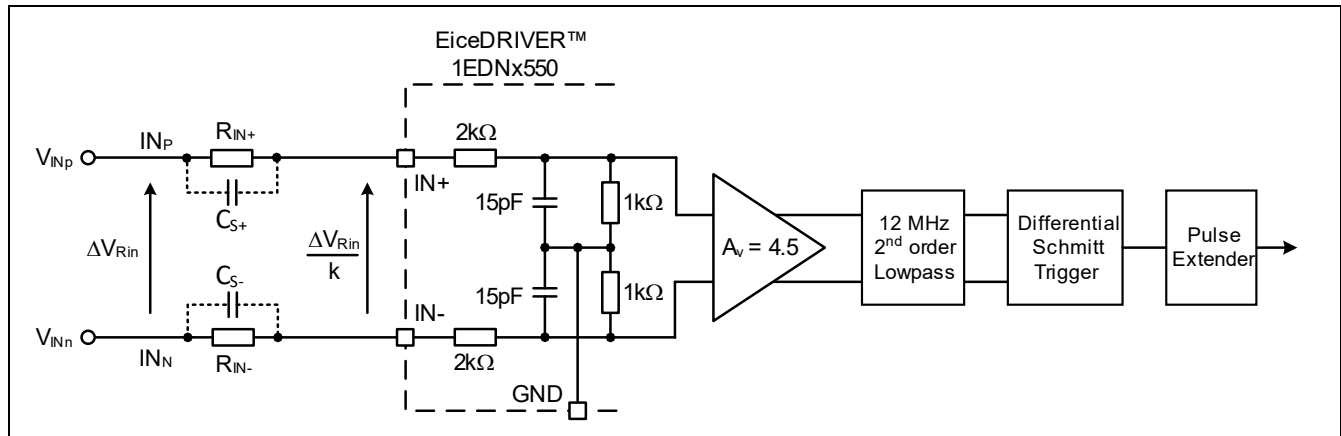
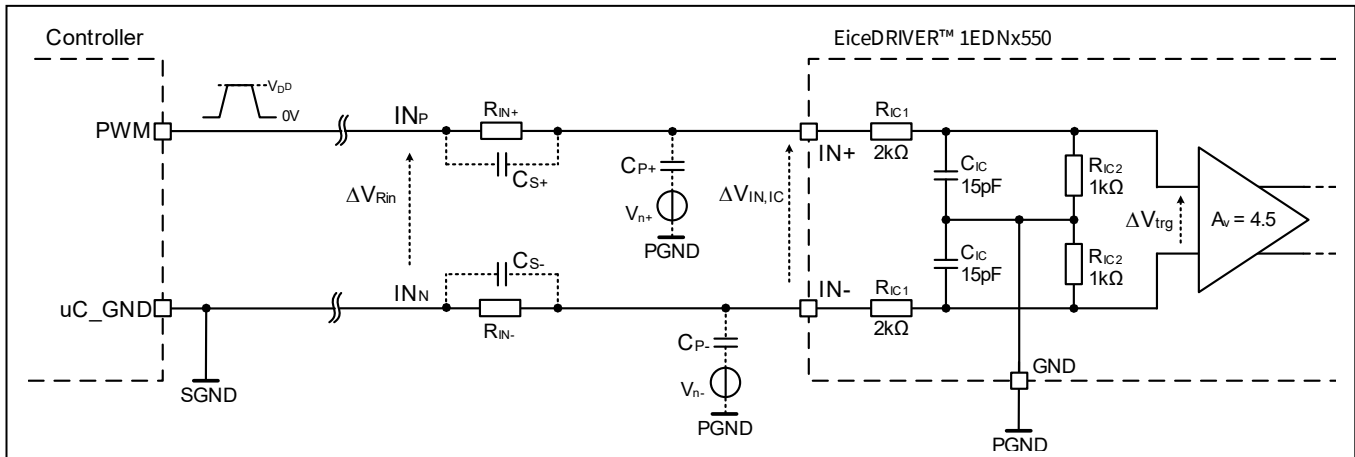

Figure 3 TDI input stage of the EiceDRIVER™ 1EDNx550 gate driver IC
Figure 14 EiceDRIVER™ 1EDNx550: equivalent circuit model for the input signal
The two input resistors R_{IN+} and R_{IN-} are mandatory for proper operation of the EiceDRIVER™ 1EDNx550, as they enable rejection of the common-mode voltage and scale the PWM voltage as shown in **Figure 3**.
The two key points presented in Section 3.1.1 can be quantitatively analyzed by means of the full equivalent circuit presented in **Figure 14**, which introduces PCB parasitic capacitances C_{p+} and C_{p-} to the model already shown in **Figure 3**.
In **Figure 14** a single-ended PWM signal with amplitude V_{DD} is generated from the controller and is routed as a differential pair IN_P/IN_N (i.e., traces close together) from the controller to the input resistors R_{IN+} and R_{IN-} . The two input resistors shall be placed as close as possible to the gate driver IC.
Table 2 Description of the components represented in the equivalent circuit model of **Figure 14**
¹ According to Equation [1] and **Figure 14**, the peak-to-peak voltage of $\Delta V_{IN,IC}$ between pins $IN+$ and $IN-$ is V_{DD}/k . It is important to notice that, since k is greater than 1 (e.g., $k = 12$ for $R_{IN-} = R_{IN+} = 33 \text{ k}\Omega$), signal $\Delta V_{IN,IC}$ is the most sensitive to noise. This already suggests placing R_{IN-} and R_{IN+} as close as possible to the gate driver IC.
According to the model in Figure 14, the $\Delta V_{IN,IC}$ voltage and the associated IN+ and IN- nets are the most critical from the noise perspective. This confirms that layout symmetry and PCB parasitics C_{P+} and C_{P-} must be kept under control during routing: keeping IN+ and IN- input traces symmetrical and avoiding capacitive coupling to any switching or noisy net is fundamental to achieve optimal performances and CMR levels listed in Table 1.
- 3) Minimize C_{P+} and C_{P-} by placing resistors R_{IN+} and R_{IN-} as close as possible to the gate driver IC. The lower C_{P+} and C_{P-} , the lower the effect of V_{n+} and V_{n-} (see Figure 14) on the input signal
- 3) Minimize C_{P+} and C_{P-} by placing resistors R_{IN+} and R_{IN-} as close as possible to the gate driver IC. The lower C_{P+} and C_{P-} , the lower the effect of V_{n+} and V_{n-} (see Figure 14) on the input signal.